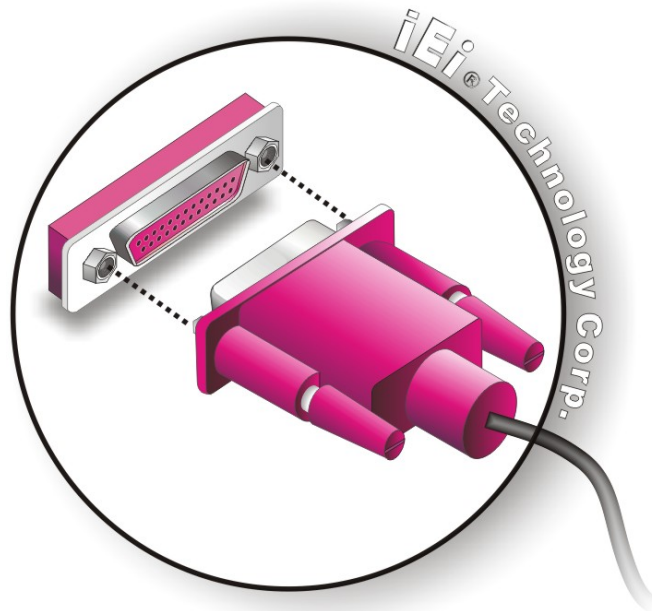

Figure 4-16: Parallel Device Connector
Step 2: Insert the DB-25 connector. Insert the DB-25 connector of a parallel device into the DB-25 connector on the external peripheral interface. See Figure 4-16.